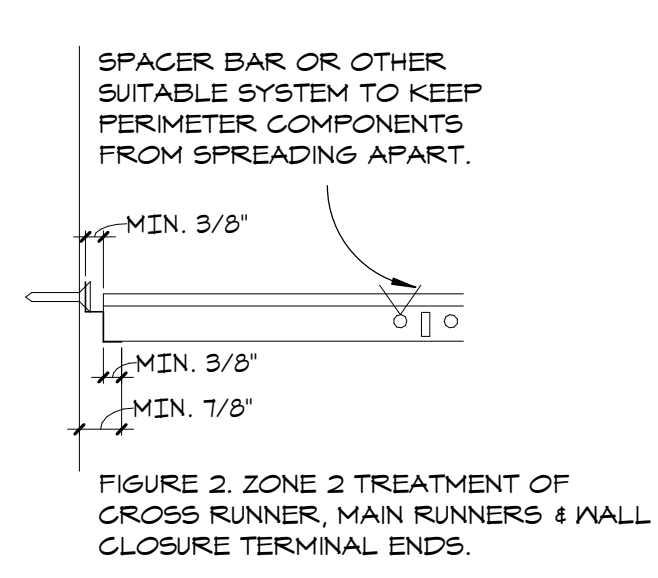

FIGURE 2. ZONE 2 TREATMENT OF CROSS RUNNER, MAIN RUNNERS & WALL CLOSURE TERMINAL ENDS.
- REVEAL (SHADOW) EDGE WALL CLOSURES SHOULD ACCOMMODATE THESE CLEARANCES AS SHOWN IN FIGURE 2.